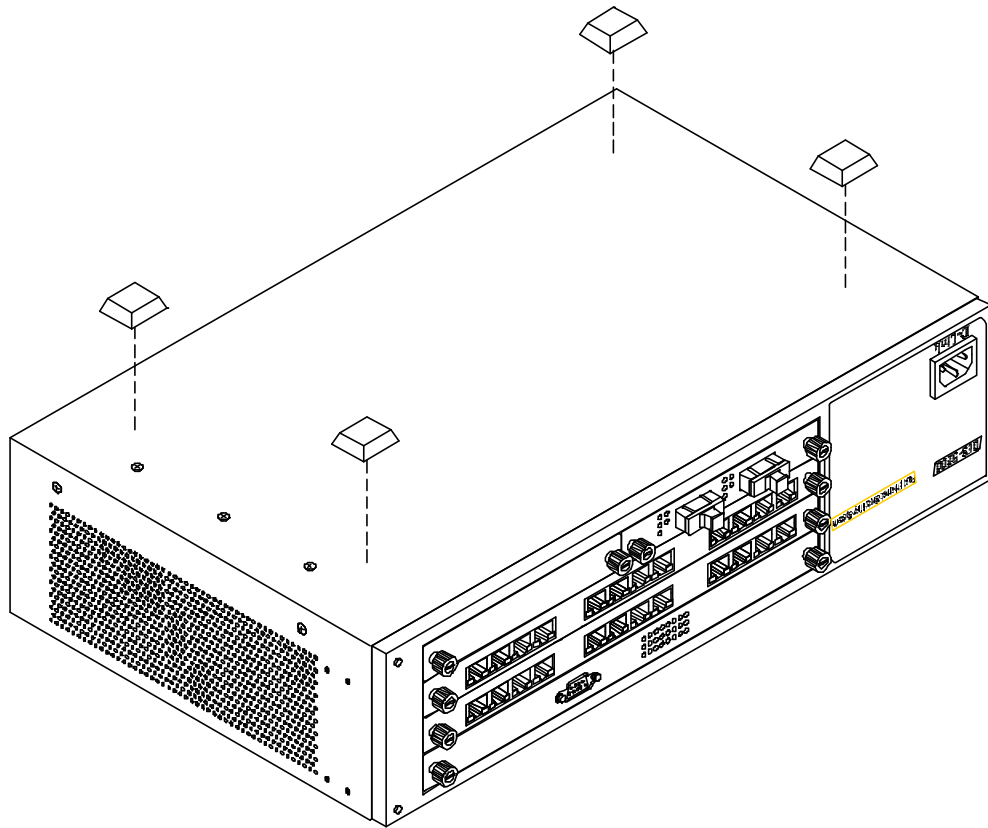

Figure 6: Attach Feet
2. Place the DES-5200 on a desktop/ shelf. See Figure 6.